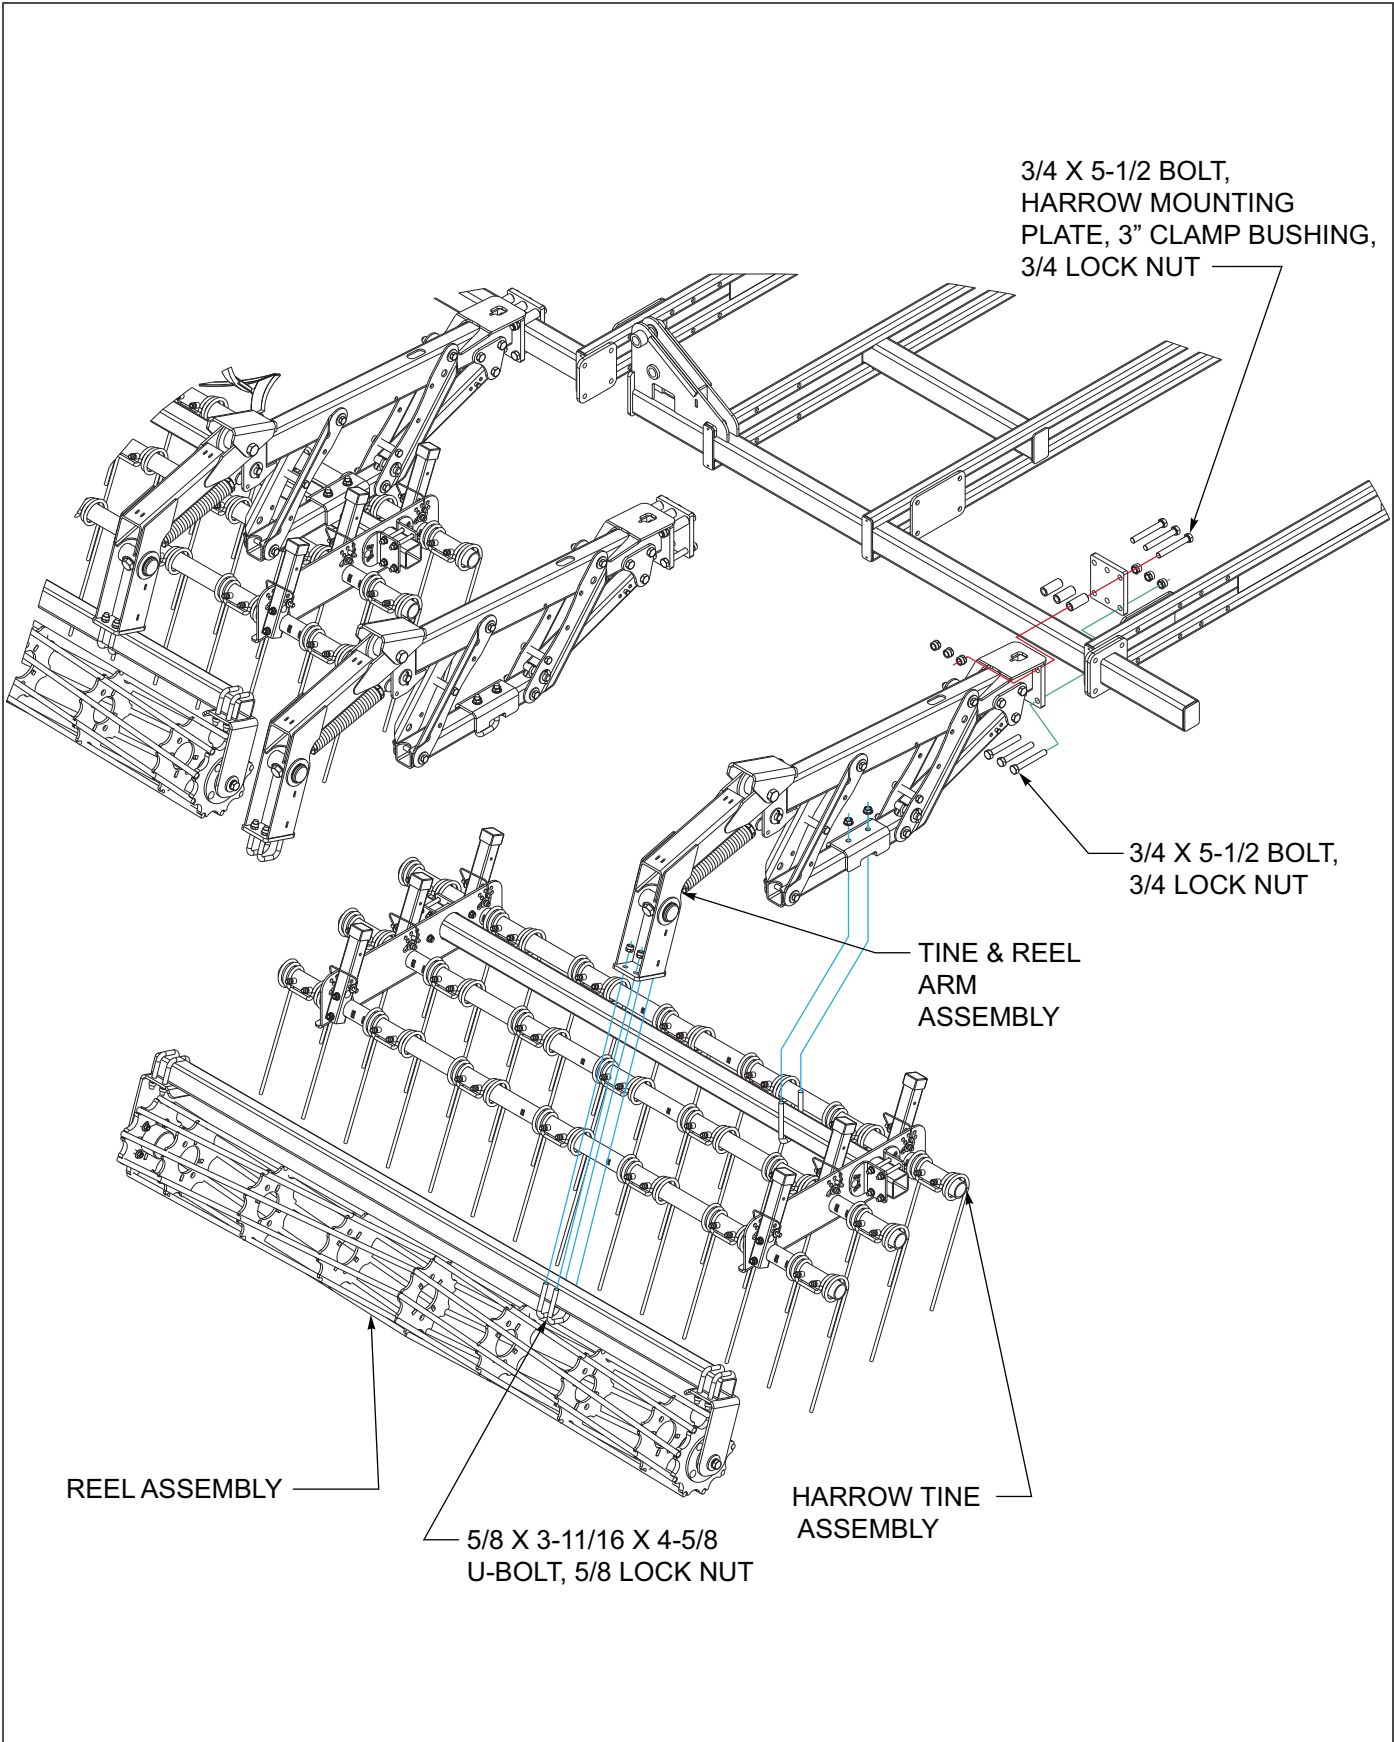

Figure 3-19: 3 Row Coil Tine and Reel Harrow Installation
1. Attach the tine/reel arm assemblies to the rear tube of the center and wing frames using harrow mounting plates, 3/4 x 5-1/2 bolts, clamp bushings and 3/4 lock nuts See Figures 3-19. Clamp bushings are installed on the top mounting bolts.